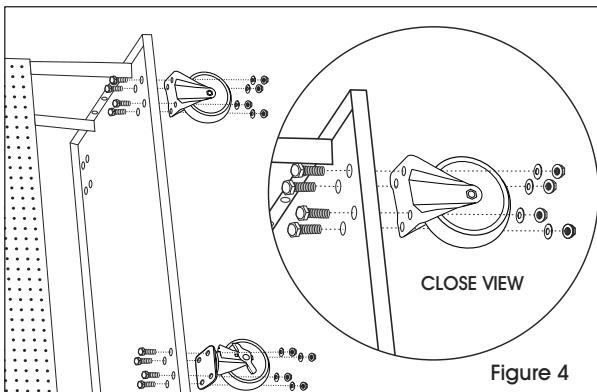

Figure 4
1. Lay pegboard cart on its side so the bottom of the deck is accessible. (See Figure 4)
2. Place one caster on the bottom of the deck. Align caster bolt holes with holes in the deck. (See Figure 4)
3. Insert four long bolts through the holes in the deck and the caster. In this order, slide one washer and one flange nut onto each bolt. Secure using 12 mm wrench, but do not tighten. (See Figure 4)